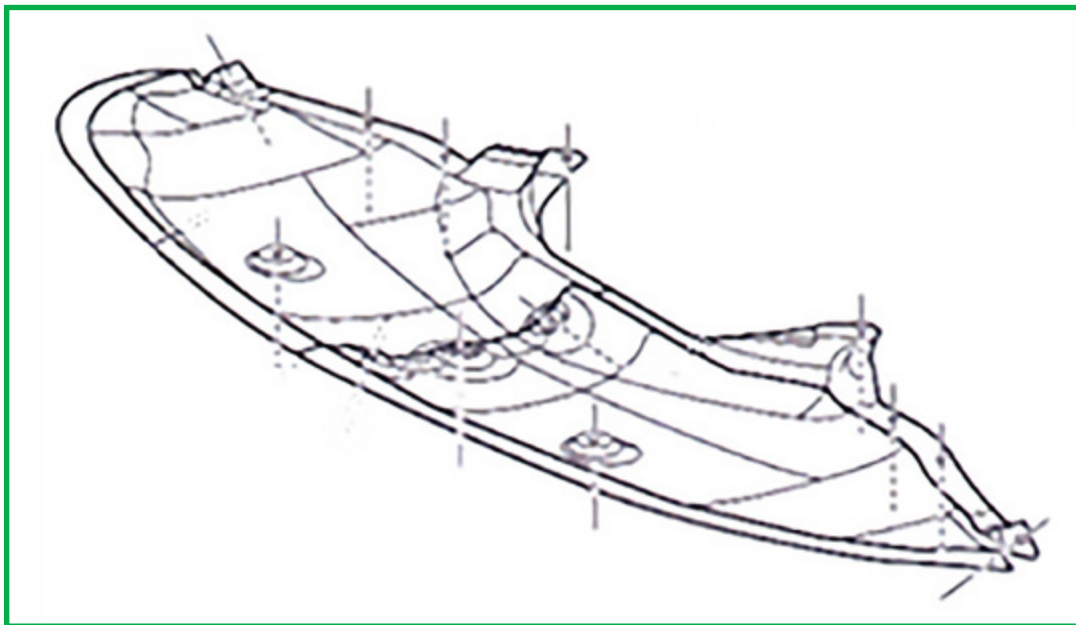

FIGURE 1
1. Remove engine compartment paneling underneath the vehicle. (Figure 1)